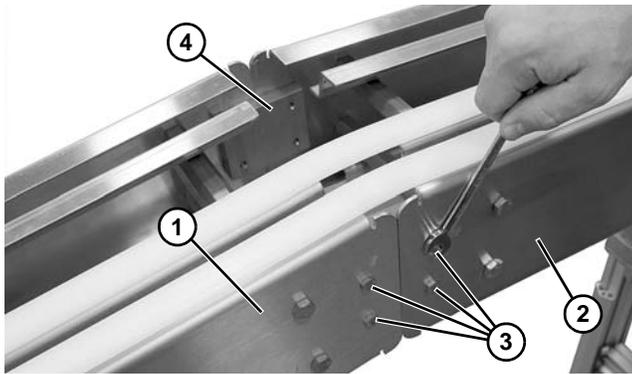

Figure 5
Be sure all frame sections (**Figure 5, item 2**) are properly supported during knuckle assembly.
1. Join knuckle conveyor frame section (**Figure 5, item 1**) and conveyor frame (**Figure 5, item 2**), and secure with four screws (**Figure 5, item 3**) and connecting plate (**Figure 5, item 4**) on both sides. Tighten screws.